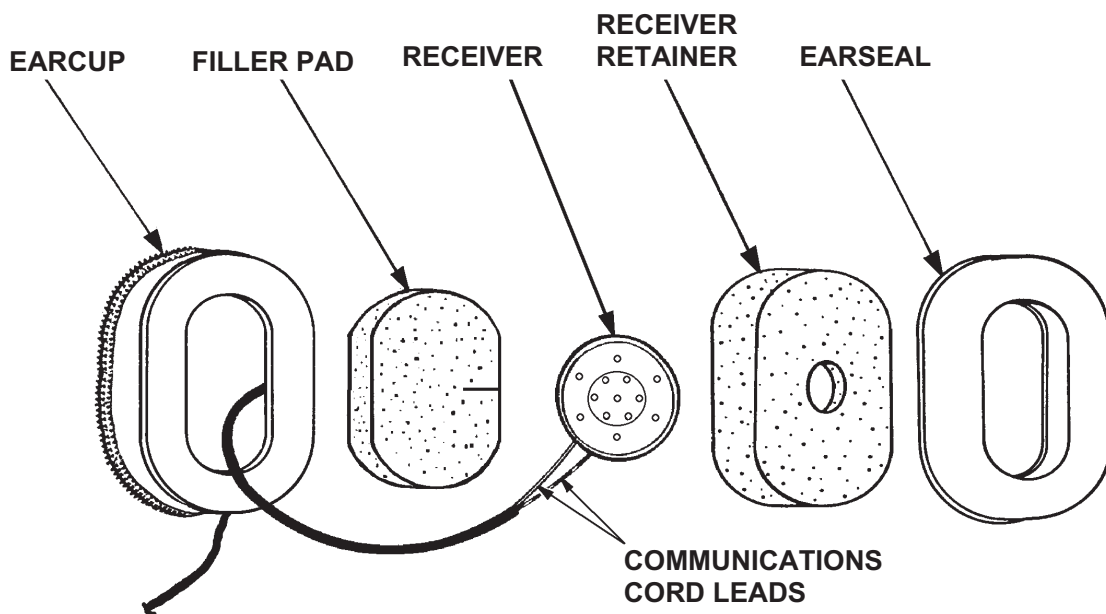

Figure 4-11. Earcup Assembly
1. Referring to Figure 4-11, remove the earcup (1); allow it to hang by the communications cord.
2. Remove the earseal (5) from the earcup by stretching it carefully over the lip of the earcup shell.
3. Remove the foam receiver retainer (4) from the earcup.
4. Remove the receiver (3) from the receiver retainer.
5. Using a jeweler's screwdriver, loosen (do not remove) the two set screws that secure the receiver to the communications cord leads (6).